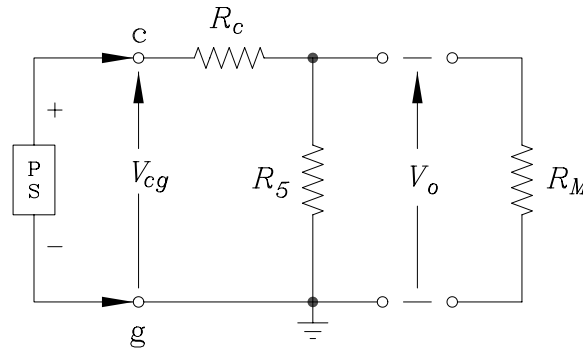

Figure 5: Measuring the same voltage with the DMM and the oscilloscope.
- (12) Set up the circuit of Figure 5 using resistors R_c and R_5 and record the value of V_o as measured by the DMM and then by the oscilloscope. What is the reason for the different values obtained?
- (13) Calculate the value of V_o